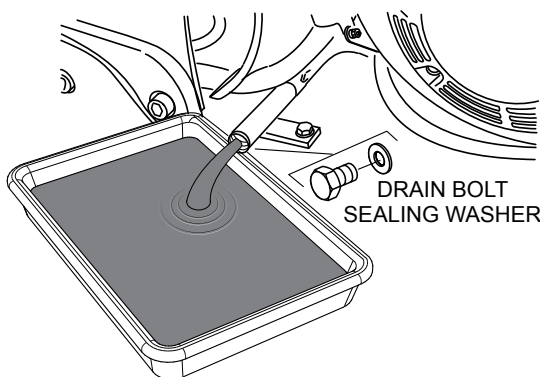

Figure 22. Draining Engine Oil
1. Remove the oil drain bolt (Figure 22). and sealing washer and allow the oil to drain into a suitable container.